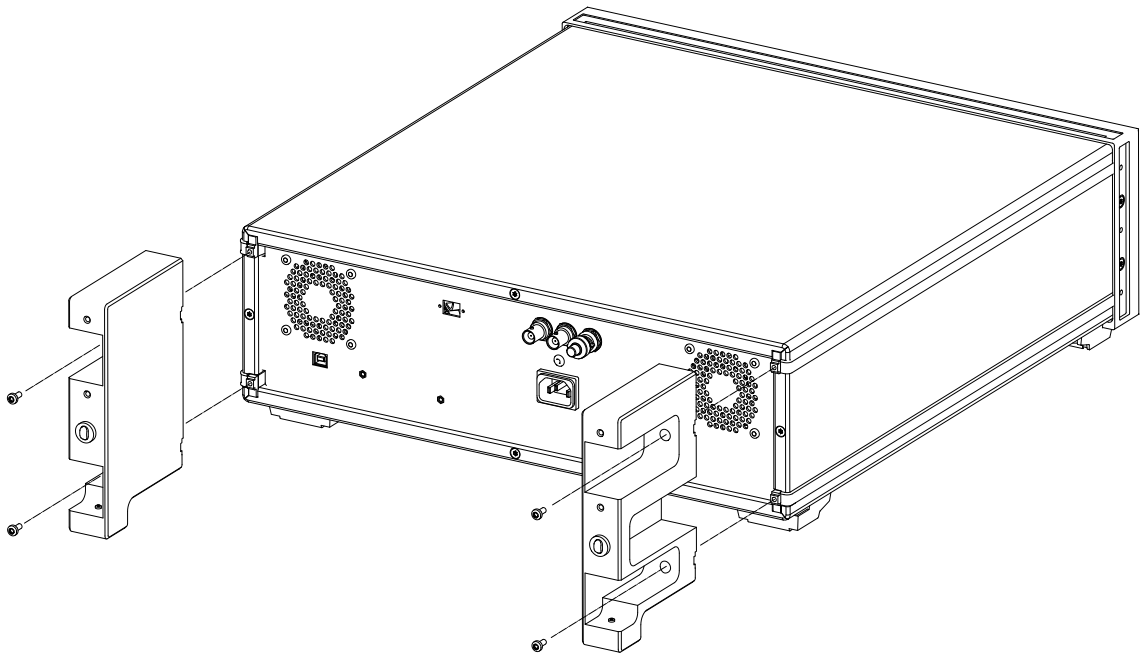

Figure 3 Preparing the coherent receiver unit
- 1 a. Mount the left and right foot according to Figure 3 on page -23 using a Torx T15 screw driver and 2 screws: M3.5x0.6 8mm, part number 0515-1402, torque 2 Nm (17-in-lb), for each foot.